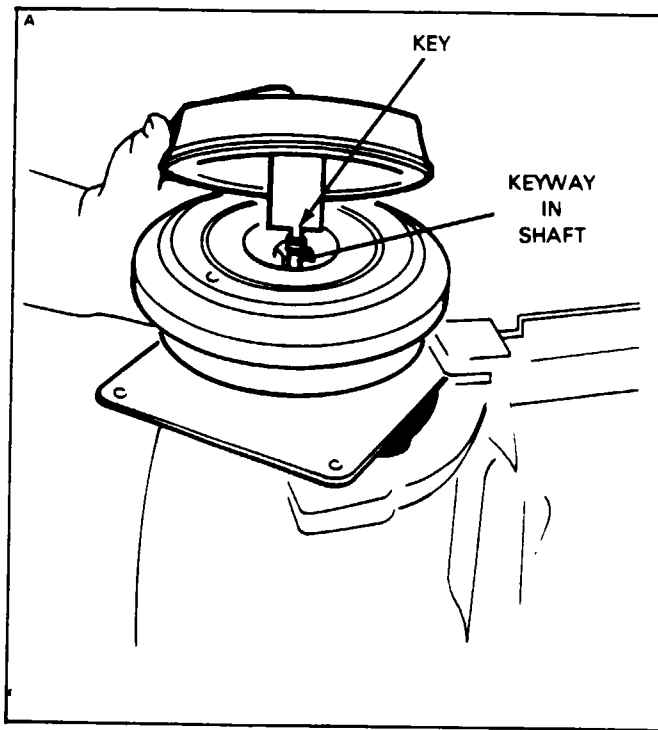

Figure 21-28. Aligning Driven Plate Key
4. Line up the key in the shaft with the keyway in the hub. (Refer to Figure 21-28.)